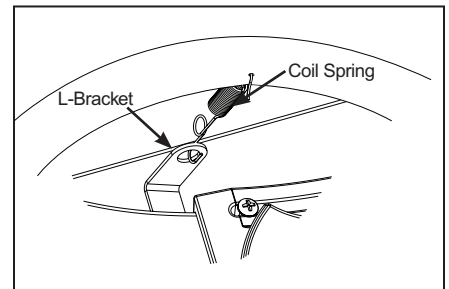

Figure 10
**To install trims using COIL SPRINGS,** connect trim springs to fixture L-Brackets (Fig. 10). Take note of flange details at top of OPTIC REFLECTOR, align and insert in fixture and rotate 1/4 turn clockwise until it stops.